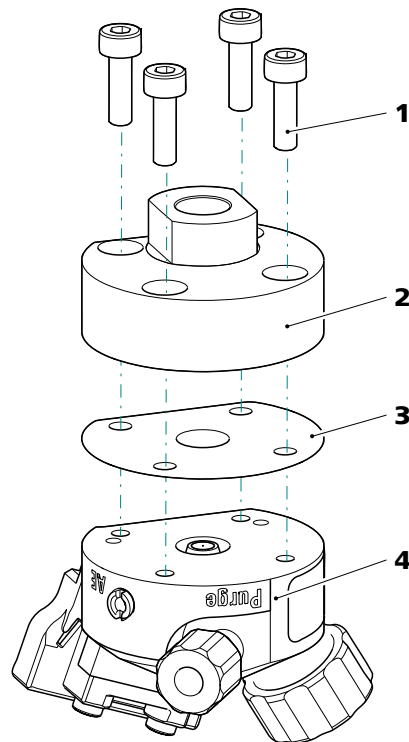

Figure 4 Disassembling the measuring cell
- Hold the measuring part in your hand as shown in *Figure 4, page 16*.